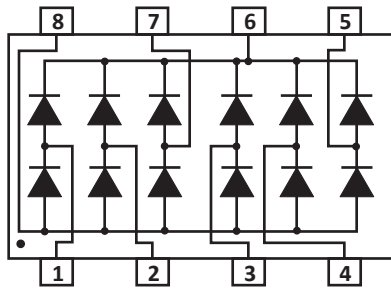

Figure 7. Steering Diode Array - DALC112S1
b) those that divert transient away from sensitive loads, so limiting the residual voltages - Steering Diode Arrays as shown in Figure 7.